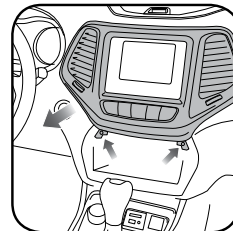

Fig. 1.3
- Remove the two (2) screws and remove the radio bezel. (Fig. 1.3)